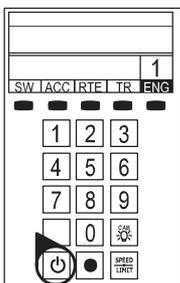

Figure 5. LEGACY start-up
6. Press the Start Up key on your LEGACY CAB-2 Remote, shown in Figure 5. Then, throttle up and move 'em out! Your engine sound will start up, and the locomotive-specific touch screen buttons will populate the remote. For more information on operating your locomotive with the LEGACY system, please refer to the LEGACY section of this manual. Additional information is also found in the LEGACY System Manual, available online at www.lionel.com.